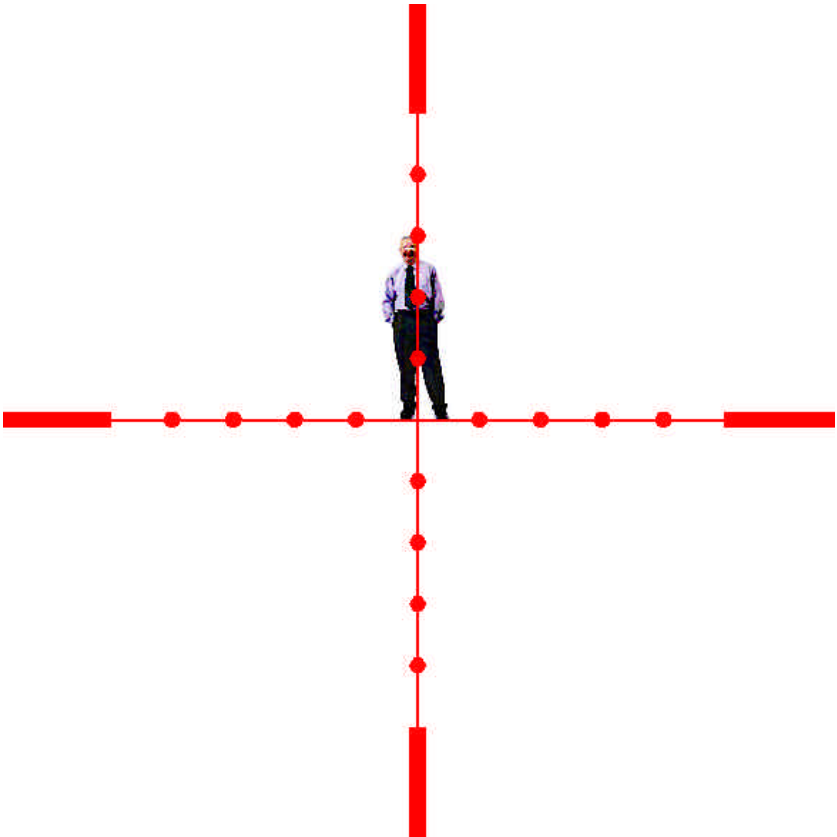

Fig 60.
c.1.) As per illustration Fig. 60.
c.2.) Not shown in Fig. 60